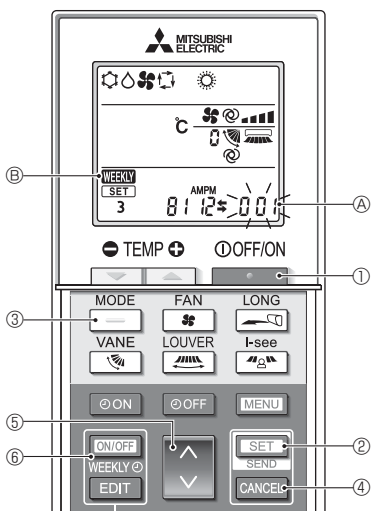

Fig. 4-12
- Press the **MENU** button ②.
4.12.8. How to disable Auto mode operation (Fig. 4-12)
1. Press the **STOP** button ① to stop the air conditioner.
2. Press the **ON/OFF WEEKLY** button ⑥ to disable the timer. (**WEEKLY** ⑥ disappears.)
3. Press the **SET** button ② for 5 seconds.
4. Completing the settings (Fig. 4-12)
- Press the **SET** button ② for 5 seconds.